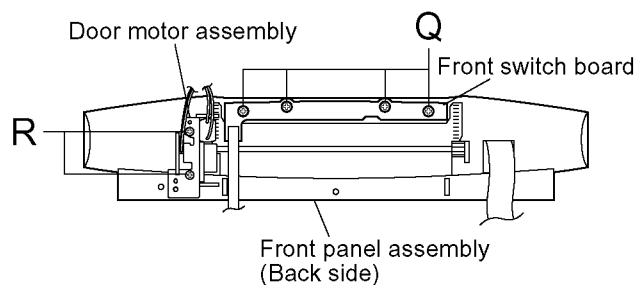

Fig.2-15
2.2.1 Removing the front switch board (See Fig. 2-15.)
2.2.2 Removing the door switch board (See Figs. 2-15 and 2-16.)